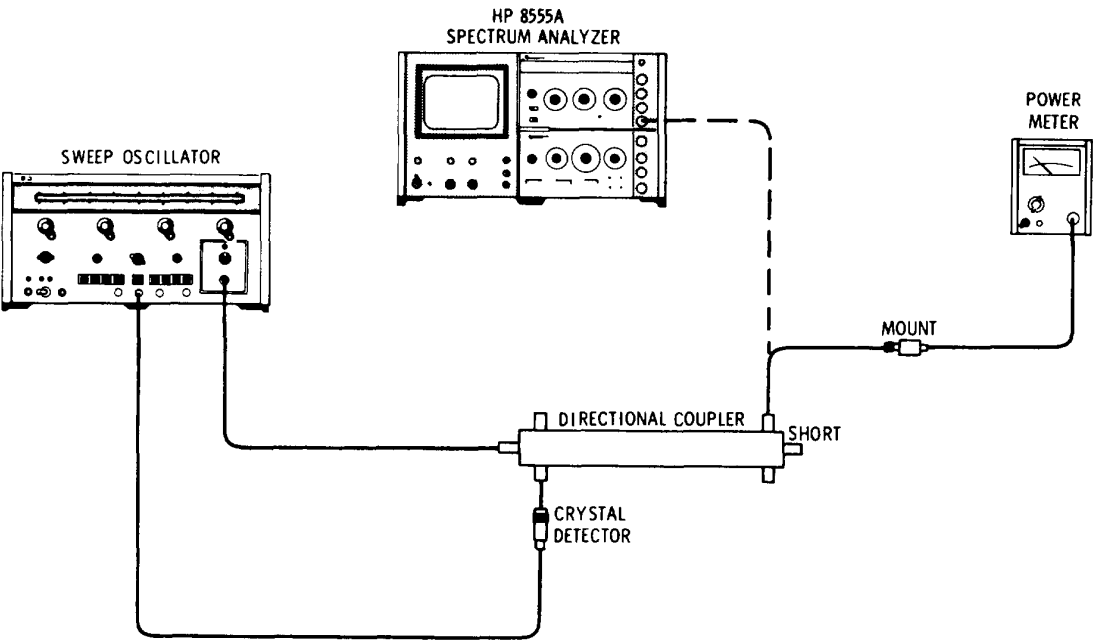

Figure 4-6. Frequency Response Test Setup, 0.1 to 2.05 GHz.
2. Connect the test setup shown in Figure 4-6 with the power meter connected at the output with the 8699B RF Unit installed in the Mainframe. Level the sweeper between 0.1 and 2.05 GHz for -10 to -20 dBm reading on the power meter.
5. Repeat steps 1 through 4 using the appropriate sweeper RF Unit and test setup, Figure 4-6 or 4-7 to check the remaining frequency bands of the analyzer. Adjust the analyzer FREQUENCY control and BAND to correspond to the frequency range being checked. The frequency response for each band should be within the limits tabulated below.